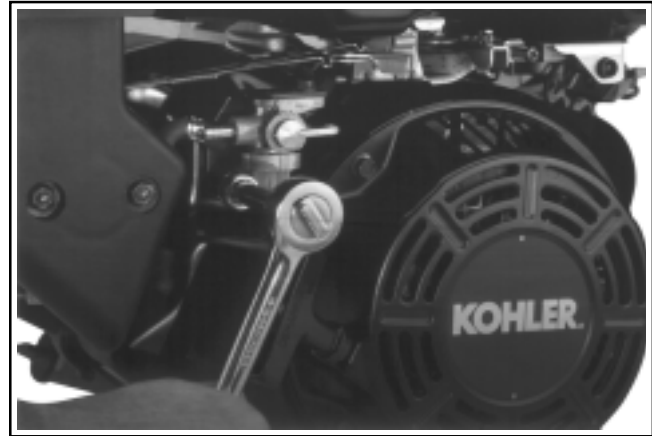

Figure 11-114. CS8.5 (spec. 95xxxx). Mounting Shut-Off Valve.
4. Connect the fuel line from the fuel tank to the inlet fitting of the shut-off valve and secure with the clamp. Mount the bracket/shut-off valve assembly to the blower housing aligning the indexing mark and screw hole. Install the hex. flange head screw and torque to **8-12 N·m (71-106 in. lb.)**. See Figure 11-114.